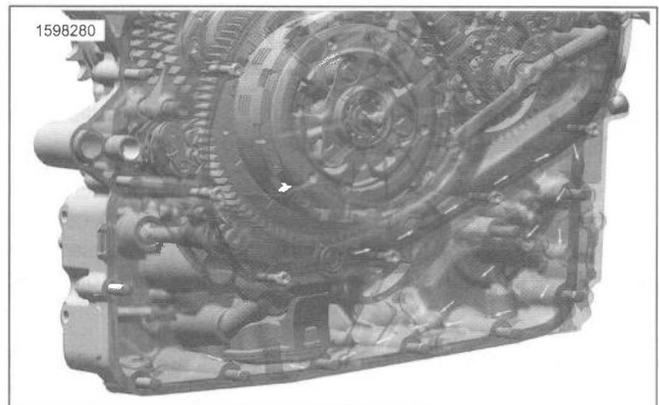

Figure 4-5. Internal Reservoir
4. See Figure 4-5. The scavenge pumps force oil to the front of the crankcase through an outlet passage machined into the crankcase. This oil contains air caused by piston ring blow-by and crankcase pressure. As oil moves from the front of the crankcase to the internal reservoir, trapped air is removed and flows up the front of the crankcase and out the reservoir vent passage into the clutch cavity. See BREATHER OPERATION (Page 4-9).